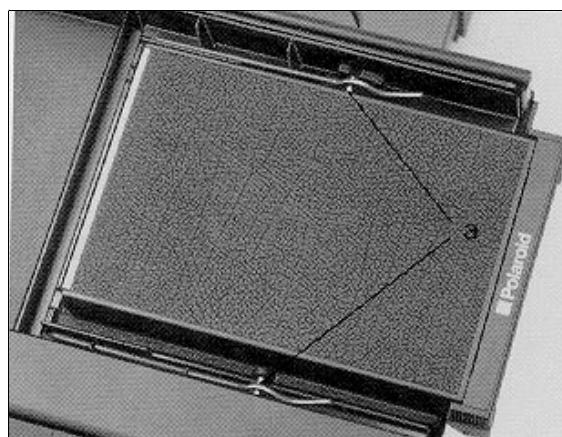

Figure 3-4. Inserting 44-48 Film Holder
**44-48 Film Holder:** Slide the holder all the way into the right side of the camera head (figure 3-4). Be sure that the two locking pins (a) on the holder engage the springs on the camera head.